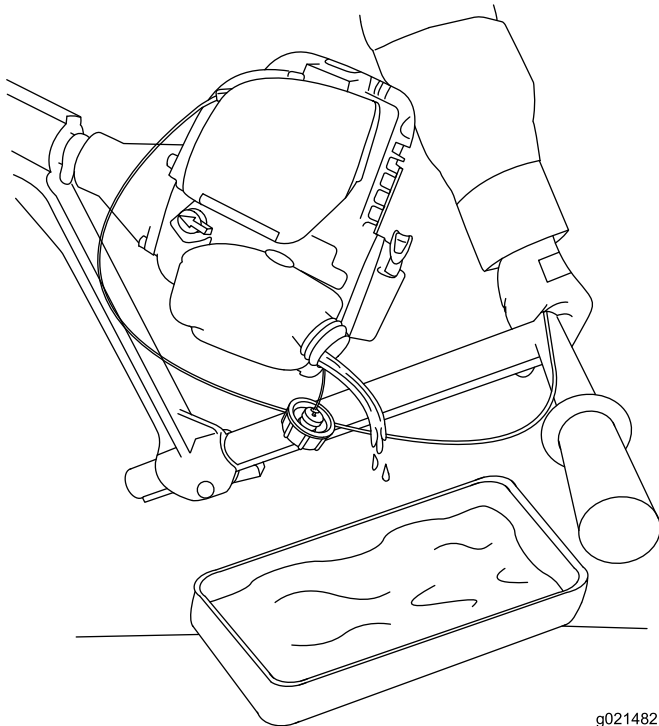

Figure 33
4. Empty the fuel tank (Figure 33).